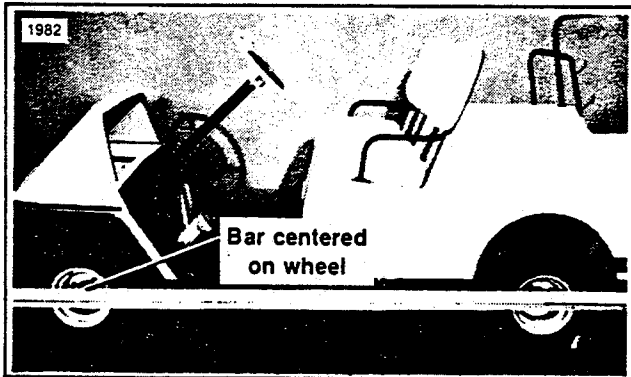

Figure 2-20 Checking Toe
4. Check toe of right front wheel first with long straight edge extending from right rear wheel to right front wheel (Figure 2-20). Right front wheel should be toed-in 1/8 in. (3.2 mm) (Figure 2-21).